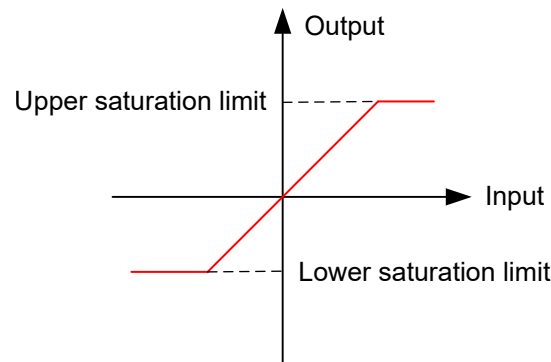

Figure 3: Output saturation
- The function ensures that the output is saturated between these limits. If the input is between these limits, the output is equal to the original input. If the input is outside the saturation limits, the the output is limited at the corresponding saturation limit as shown in Figure 3.